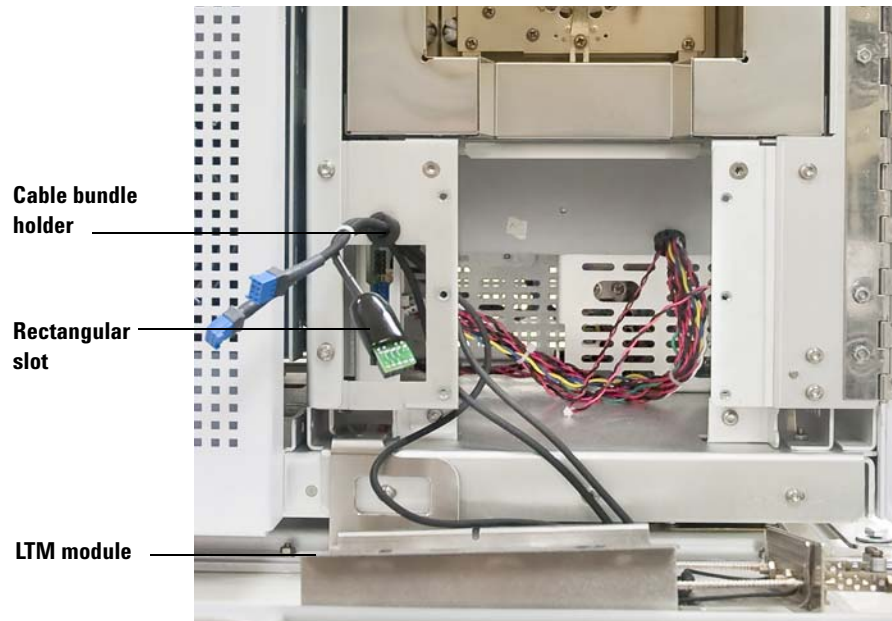

Figure 13 Disconnecting the cables
- 9** Place the LTM column module on the bench space in the front of the instrument while you disconnect the cables. See Figure 13.
- 13 Slide the bushing securing the cable bundle out of the attachment point on the frame to finish removing the column module assembly. See Figure 13.